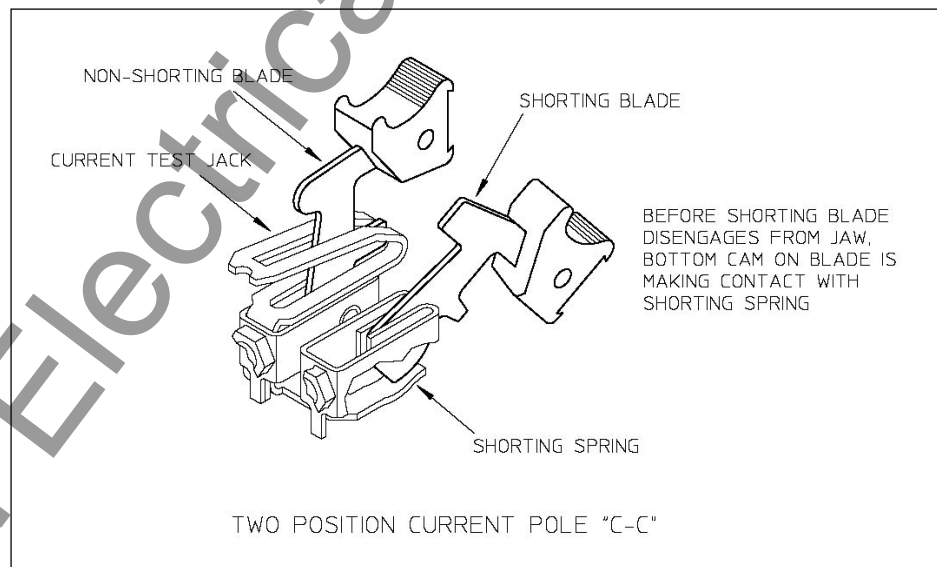

Figure 2. Blade assembly of two position pole "C-C"(Rear View, outside of base)
FT-1 and FT-1X Switches are available in combinations of 1 to a maximum of 10 individual poles or switch units. Each pole is identified by a letter (A to J), which is visible along the top of the base from left to right. The individual switch units are of a knife blade type. There are two different types of switch units available: potential poles and current poles. Potential poles (P), are configured as single, non-shorting knife blades for use in potential, trip, or control circuits. Current poles are typically configured in sets of two, (C-C), for use with current circuits; and consist of a current test jack, a shorting spring, a shorting blade, and a non-shorting blade. (See Fig. 2.) The positions of the short circuit springs are visible from the front of the switch.